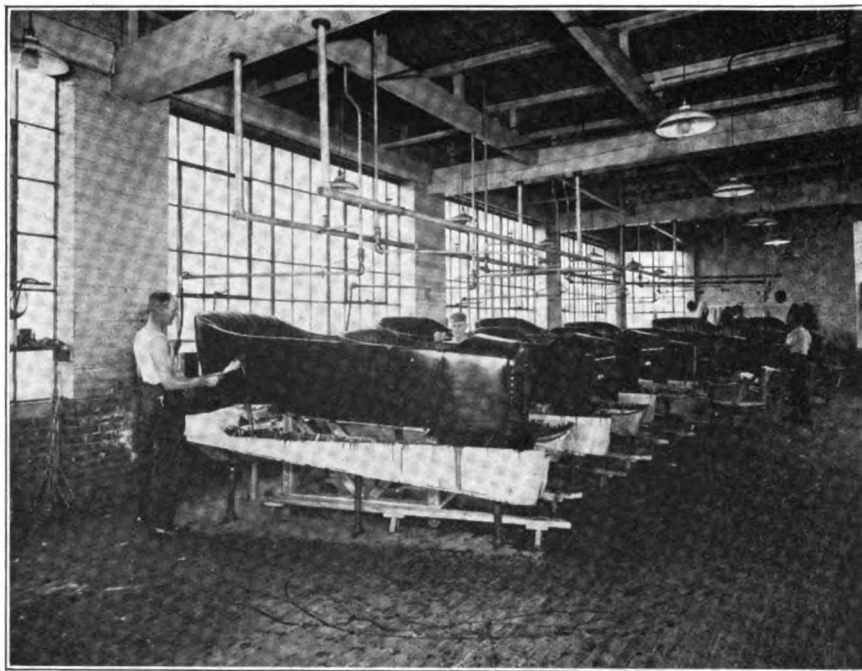

Fig. 4—Operation of final varnishing
12. Apply Floco varnish using four troughs. (See Fig. 4). Bodies are drained before drying.
After the backs are hung the bodies are sent to a room to receive the final flow of varnish. See Fig. 4.
Only a small amount of brush work is required, that is around the top of the doors and the backs of the seats. It will be noticed that the varnish drips or flows into paper lined troughs which drain into pipes. It will be noted further in Fig. 4 that two sets of pipes are suspended from the ceiling. One carries blue color varnish and the other gray. These were the only two colors used in the plants where the photographs were taken.